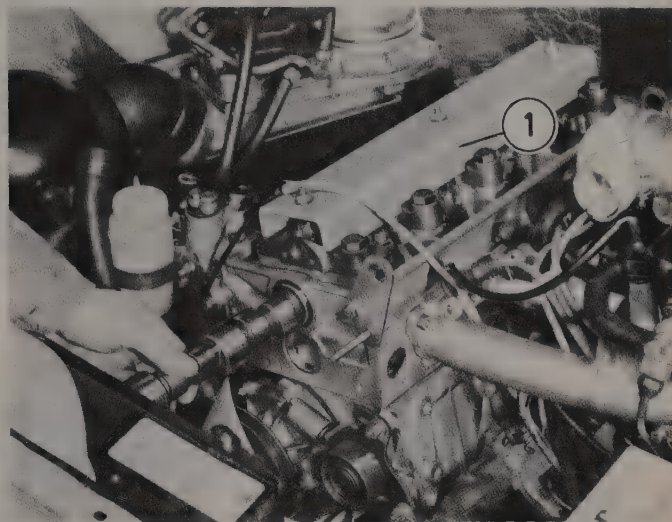

Fig. 1.21 Using the valve depressing tool (1) for camshaft removal without removing cylinder head (Sec 24)
- 7 If desired, make up a special tool as shown in Fig. 1.21 for depressing the valves, in order to free the rocker arms from the camshaft. Make the tool out of channel-section metal, and tighten down on the rocker cover studs. Alternatively, the rocker arm adjusters should be fully loosened.